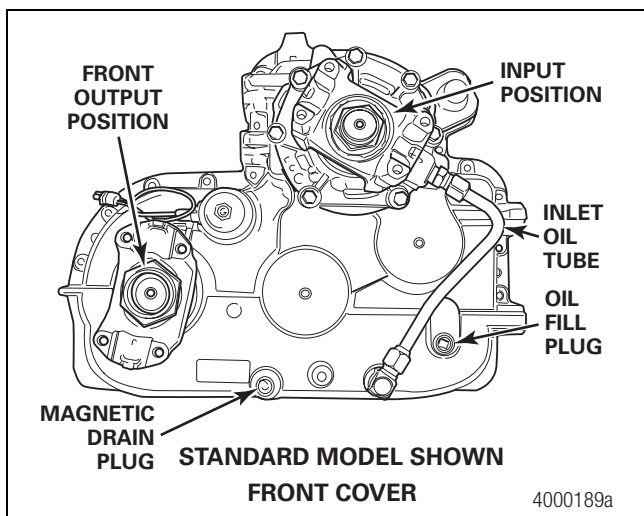

Figure 3.1
4. Remove the magnetic drain plug from the bottom of the transfer case. Drain and discard the oil correctly. Clean the magnetic drain plug. Figure 3.1.